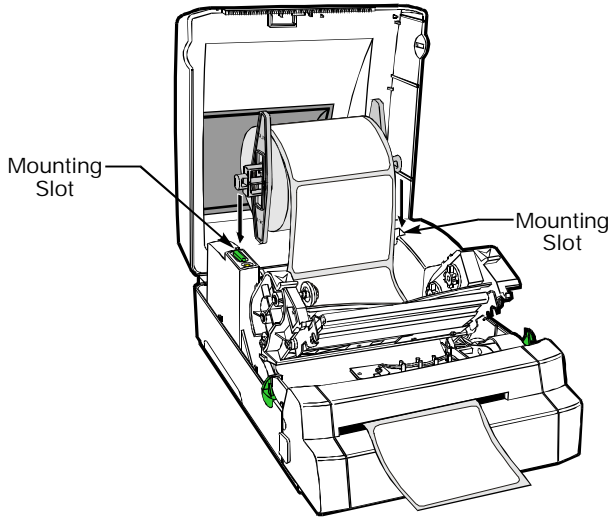

Figure 22
10. Place the media hanger into the two mounting slots (refer to Figure 22).